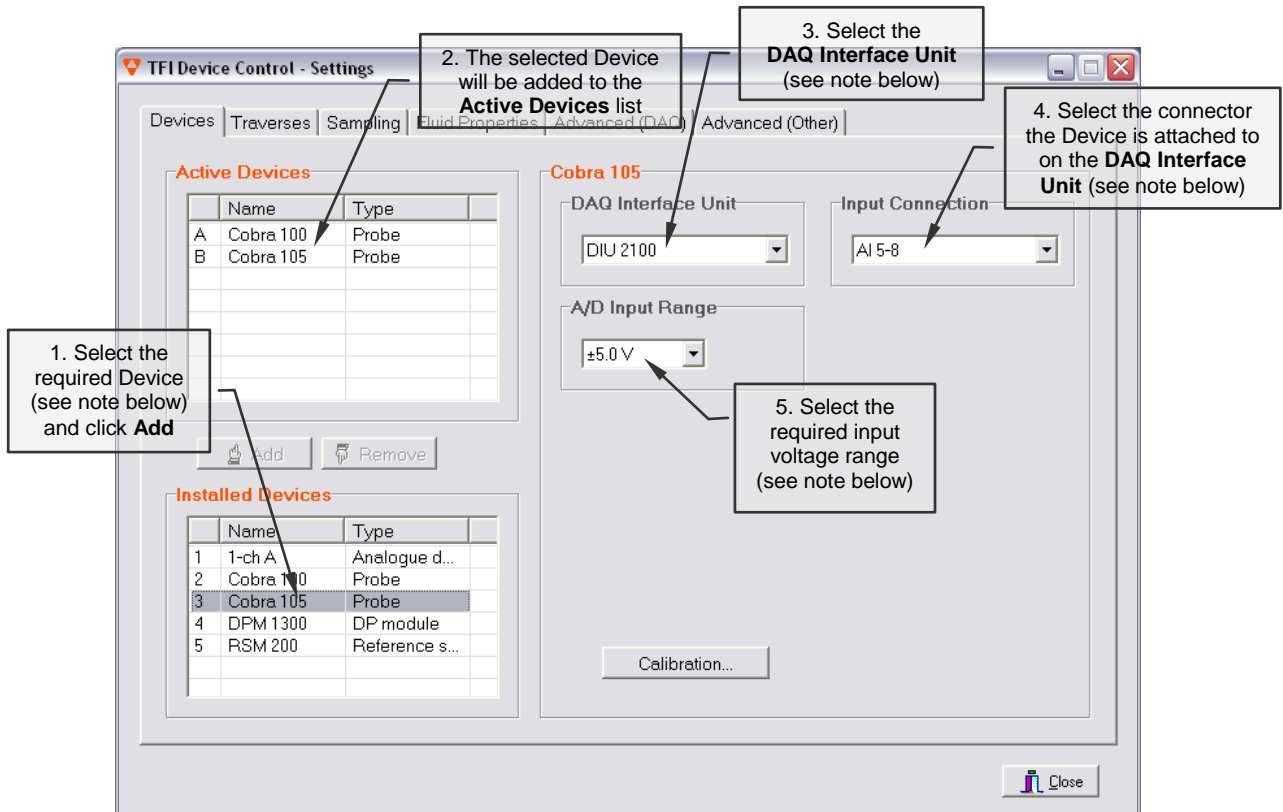

Figure 7: Software configuration – Adding and configuring devices
- To choose and configure the devices that you wish to use, select the **Devices** tab (or choose **Devices** from the **Settings** menu) and refer to Figure 7.
- Repeat the steps shown in Figure 7 for each additional Probe or other device.